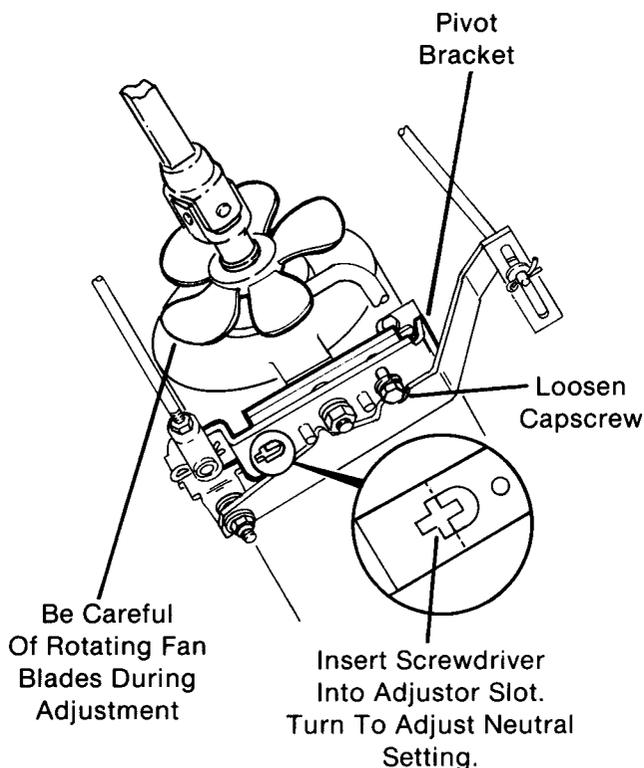

FIG. 75C
- H. Working at the right rear underside of tractor, loosen, but do not remove capscrew on pivot bracket (Fig. 75C).
- L. Tighten capscrew on pivot bracket to secure correct adjustment (Fig. 75C).
- J. Insert a wide blade screwdriver into adjuster notch of pivot brackets (Fig. 75C). Observe the rotation of the left rear wheel. If wheel rotates forward; turn screwdriver slowly clockwise until wheel is stationary. If wheel rotation is backward; turn screwdriver counter-clockwise until wheel stops rotating.